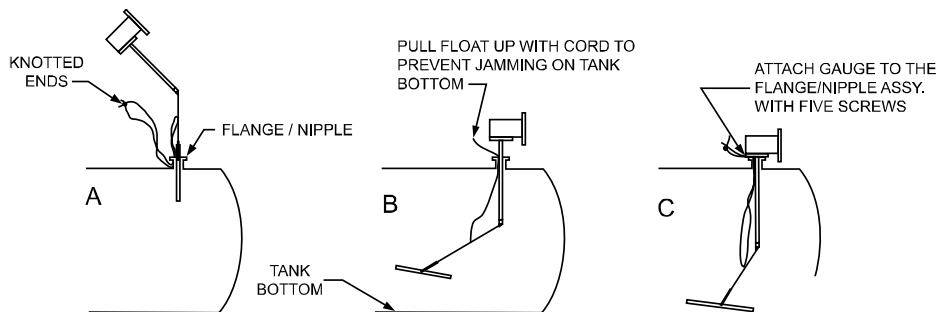

Figure 3
4.4 Insert the gauge through the nipple/flange following the procedure shown in Fig. 3. **DO NOT LET FLOAT ARM SWING BACKWARDS DURING INSTALLATION!**